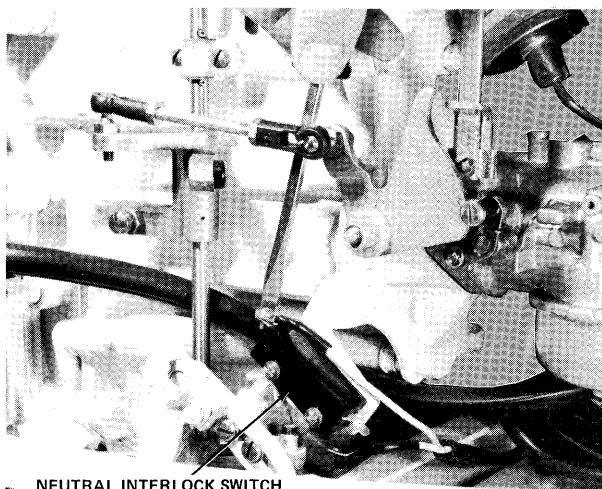

Figure 2 - Installing Interlock Switch Leads
- A. Install interlock switch to interlock switch mounting bracket with white button positioned down. Install two (2) screws and plain washers securing interlock switch to bracket and tighten securely.
- B. Install lead wires to terminals on each end of interlock switch and secure with two (2) screws and lockwashers. See figure 2.